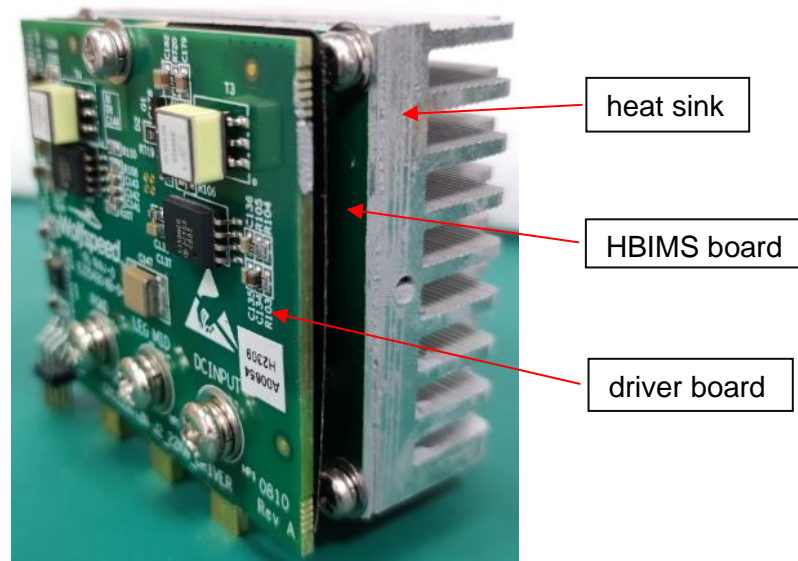

Figure 8. Half bridge IMS daughter card with surface mount SiC MOSFETs.
HBIMS daughter card assembly is shown in Figure 8 with a size of 50 mm (W) × 56 mm (D). A gate drive card is mounted on the top of the HBIMS board, and a heatsink is mounted on the bottom of the HBIMS board with an appropriate TIM. Screws and nuts are used to secure all the boards together.